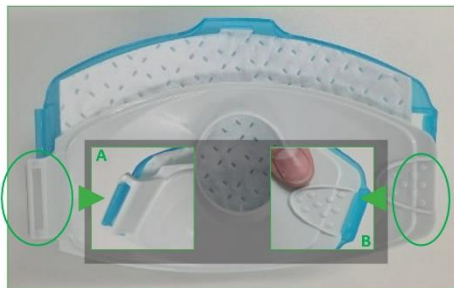

Figure 6 – Connecting Inner and Outer Case
Then, place the inner case over the filter. Align the end (A) to slot in and then close and clip the case shut (B). This is shown below in Figure 6.